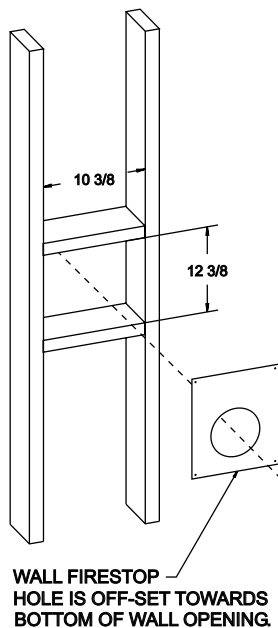

Figure 35
## Installing Firestops (Figures 35, 36, 37 and 38)
**Attention:** Wall firestop hole is off-set towards bottom of wall opening. Secure with nails or screws. Continue the vent run through the firestop. (See Figure 35)